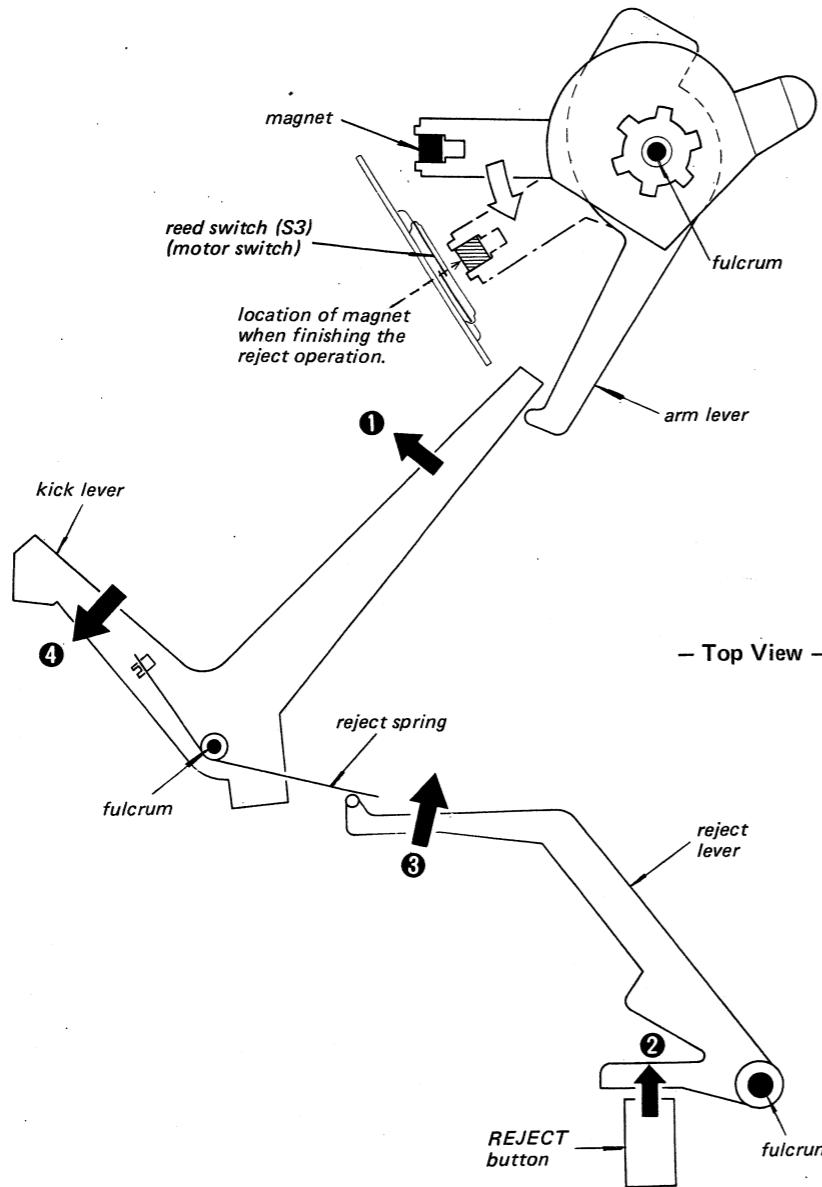

Fig. 1-1
① When the stylus comes to the lead-out groove, the arm lever pushes the kick lever. (Fig. 1-1)
(Fig. 1-1)
④ The reject lever pushes the kick lever through the reject spring. (Fig. 1-1)